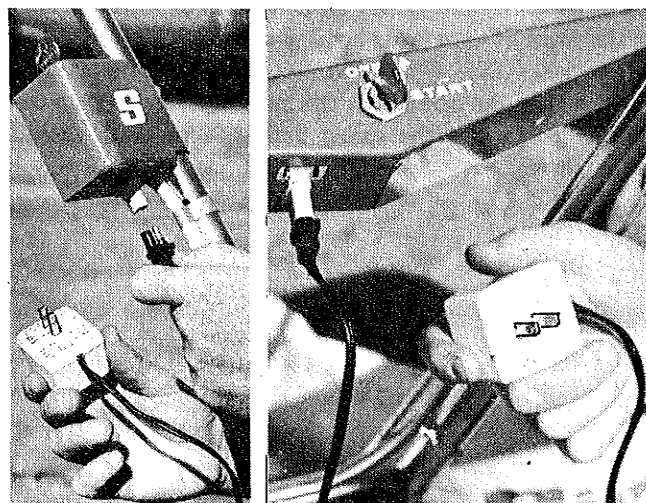

FIGURE 6
3. Battery: On electric start models plug the charging unit into a 110 volt, 60 cycle A.C. outlet. Leave the charger plugged in for at least 24 hours before starting the mower. The charger may be left on longer without damage to the battery. (See Figure 6).